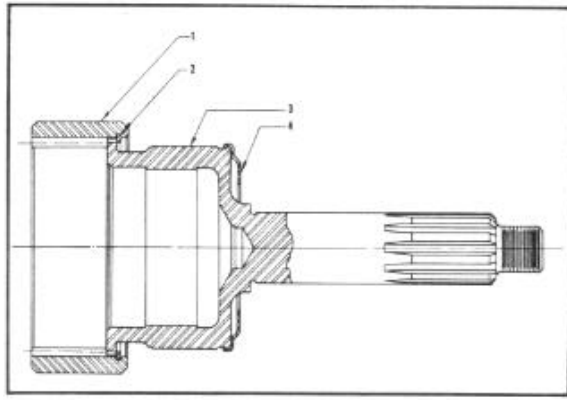

FIGURE 28
8. Install the ring gear (1), Figure 28, on the overdrive main-shaft (3) and lock it in place with the large snap ring (2).